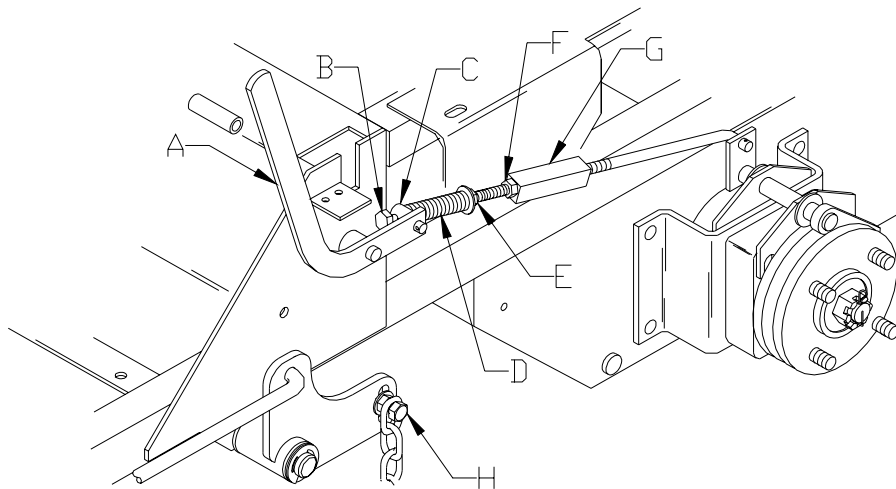

FIGURE 2
1. Stop engine and remove key. While the park brake lever "A" is in the on position. The distance between the swivel "C" and the bolt head "B" should be 3/8" to 1/2" approximately. (See Fig. 2)
3. While the park brake lever "A" is still in the on position, measure the length of the spring "D". Should measure 2". (See Fig. 2)
4. Adjust the four upper chain bolts "H" to the center of the slot in the deck lift arms (See Fig 2). NOTE: make sure deck lift blocks are tightly bolted to the frame .